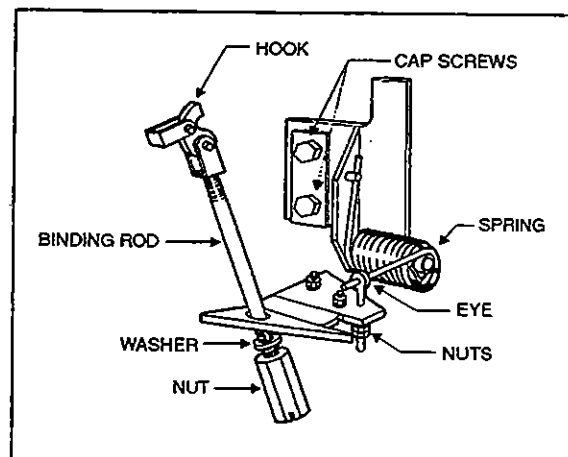

Figure 10
2. Hold bumper and push binding rods up to remove the 2 binding rod hooks from their respective attaching points. See figure 10.